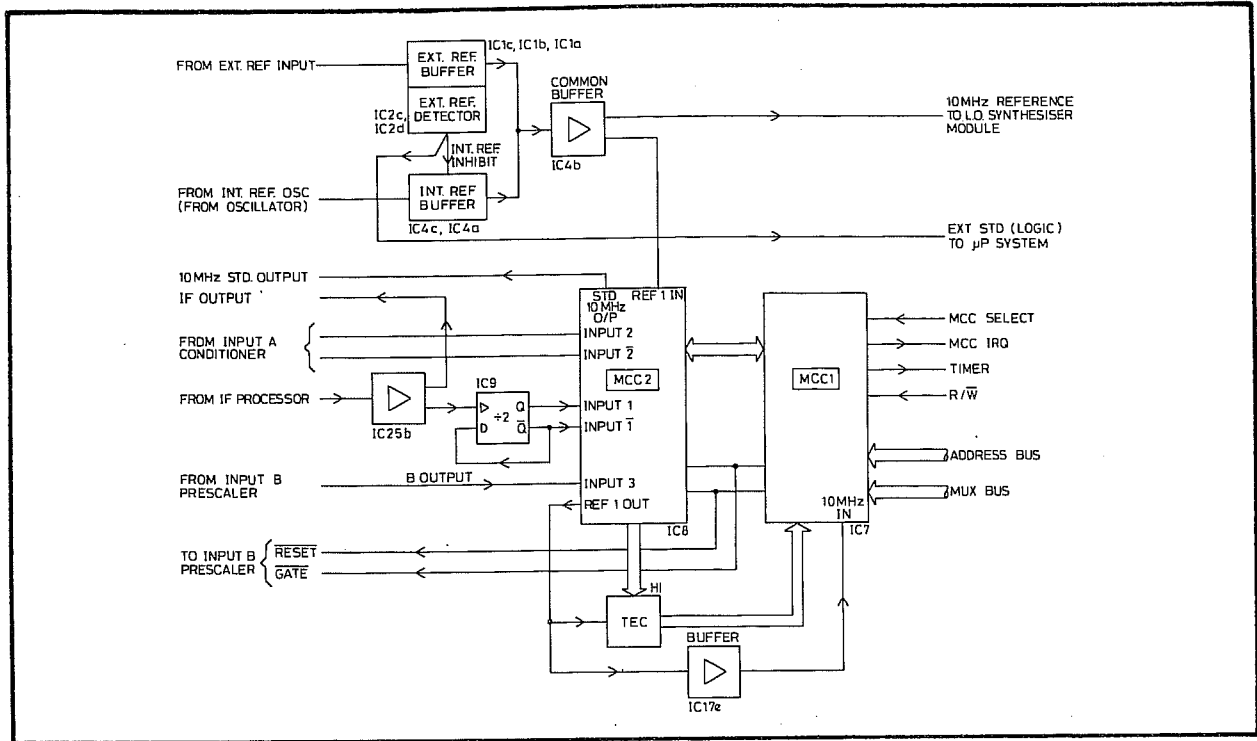

Fig. 6.9 The Measurement System
- 83 The measurement circuits of the instrument are provided by three custom-built assemblies. These are two Multiple Counter and Control integrated (MCC) circuits, MCC1 and MCC2, and the Time Error Correction (TEC) hybrid H1. A block diagram is shown in Fig 6.9.